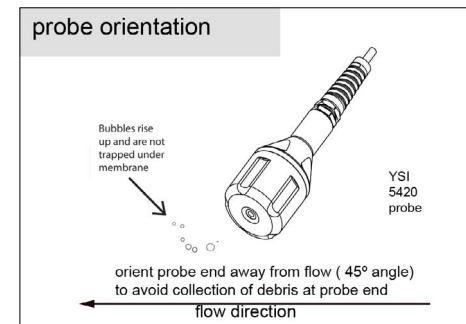

Figure 3.10
- in a location that is free from debris (e.g. algae); ideally at a 45° angle from vertical position and directed with the flow - figure 3.10